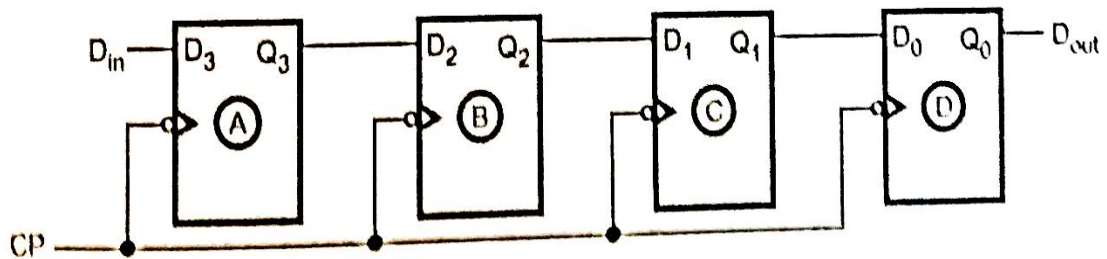

Figure 3.28: shift right register.
- Figure 3.28 shows SISO shift right register.